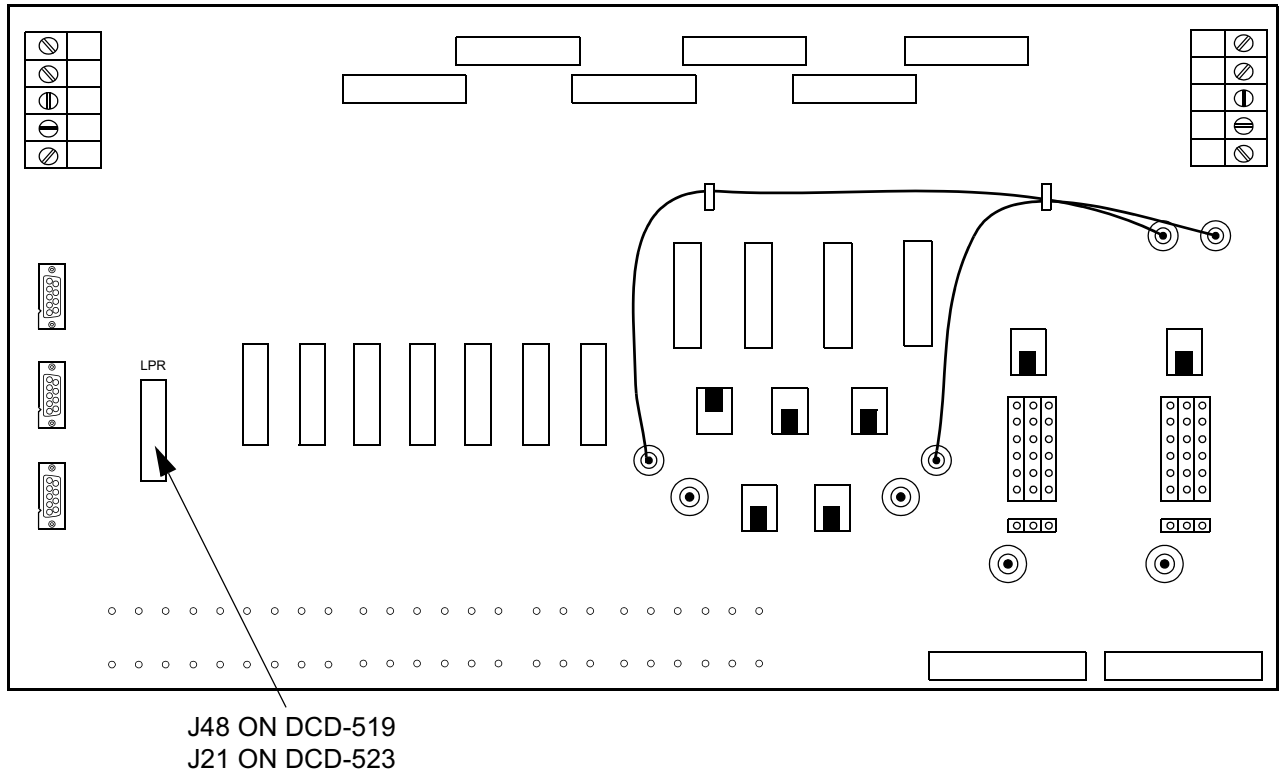

Figure 44. DCD-519 or DCD-523 Shelf Backplane
4.47 Connect one end of the cable to connector to J48 (LPRS) on the DCD-519 Shelf or to J21 (LPRS) on the DCD-523 Shelf (Figure 44).